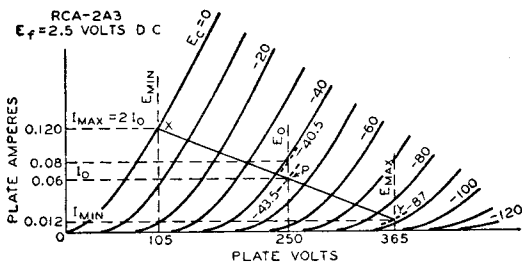

Fig. 20
Calculation of the power output of a triode used as a class A amplifier with either an output transformer or a choke having low dc resistance can be made without serious error from the plate family of curves by assuming a resistance load. The proper plate current, grid bias, optimum load resistance, and the per cent second-harmonic distortion can also be determined. The calculations are made graphically and are illustrated in Fig. 20 for given conditions. The procedure is as follows: (1) Locate the zero-signal bias point P by determining the zero-signal bias  $E_{c0}$  from the formula:
**Example:** Determine the load resistance, power output, and distortion of a triode having an amplification factor of 4.2, a plate-dissipation rating of 15 watts, and plate characteristics curves as shown in Fig. 20. The tube is to be operated at 250 volts on the plate.